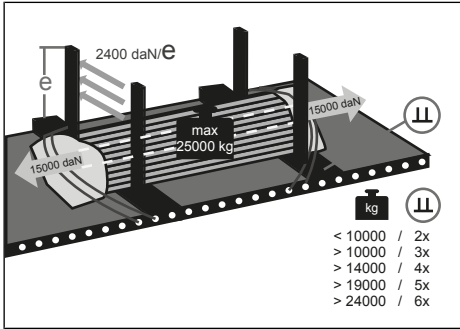

Fig. 8-20: Multi Fix system
- ▶ Position the steel pipes on the footing beam between the vertical support beams (see "Fig. 8-20: Multi Fix system", pg. 144).
- ▶ Install the safety net at the ends of the steel pipe (see "Fig. 8-20: Multi Fix system", pg. 144).